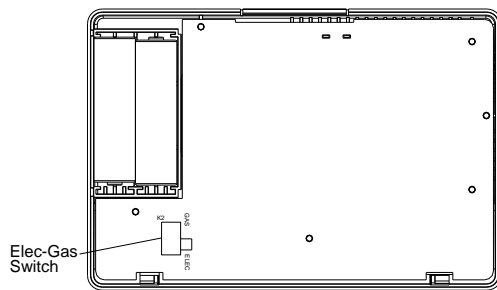

Figure 1. Electric/Gas Switch (Fan Option)
This thermostat is configured from the factory to operate a heat/cool, fossil fuel (gas, oil, etc.), forced air system. It is configured correctly for any system that DOES NOT require the thermostat to energize the fan on a call for heat. If you system is an electric heat or heat-pump system that requires the thermostat to turn on the fan on a call for heat, locate the ELEC/GAS switch on the back of the thermostat (see fig. 1) and switch it to the ELEC position. This will allow the thermostat to energize the fan immediately on a call for heat. If you are unsure if the heating/cooling system requires the thermostat to control the fan, contact a qualified heating and air conditioning service person. When the thermostat is configured for Heat Pump, the thermostat will always power the circulator fan on a call for heat in the HEAT mode. The ELEC/GAS switch must be set to match the type of Auxiliary heat your system uses for proper operation in the EMERGENCY mode. All wiring diagrams are for typical systems only. Refer to equipment manufacturers' instructions for specific system wiring information.
- Fasten base loosely to wall, as shown in fig. 1, using two mounting screws. Place a level against bottom of base, adjust until level, and then tighten screws. (Leveling is for appearance only and will not affect thermostat operation.) If you are using existing mounting holes, or if holes drilled are too large and do not allow you to tighten base snugly, use plastic screw anchors to secure subbase.